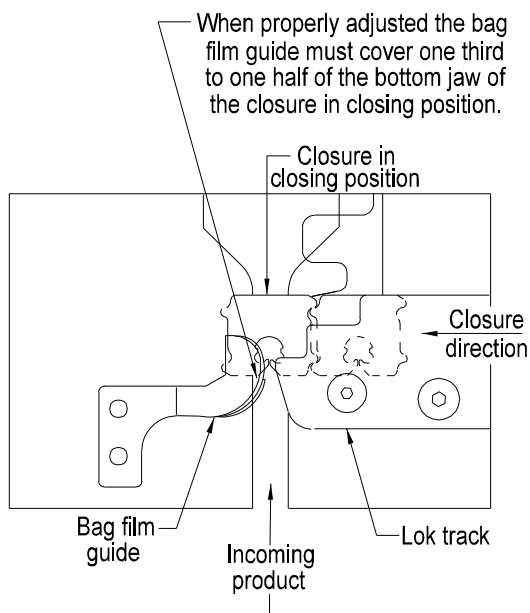

Figure 5.4
**PROPER ADJUSTMENT:** The lok pick is properly adjusted when it positions the closure as indicated in Figures 5.4 and 5.5 when the closer is in neutral.
4. Cycle the closure strip through the lok track until the closure at end of the strip is in closing position. (Figure 5.4)